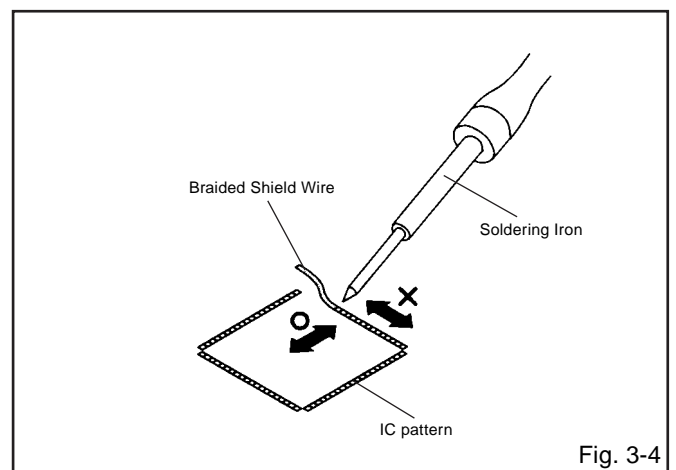

Fig. 3-4
5. Absorb the solder left on the pattern using the Braided Shield Wire. (Refer to Fig. 3-4.)